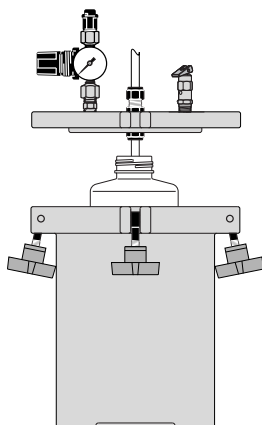

Figure 4
7. Install the cover. If you are using a manufacturer's bottle, ensure the feed tube is inserted into the bottle. (Figure 4).